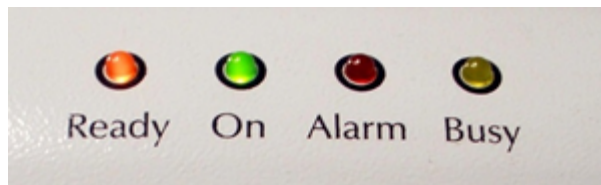

Figure 7. D4 top control lights.
5. Turn the “Generator Power” key to the right and hold it for a few seconds and look at the lights on top of the D4 (Figure 7). When the "Alarm" light turns off and the “Ready” light turns on, as well as the lights at the sides of the top of the D4, release the key back into its middle position.